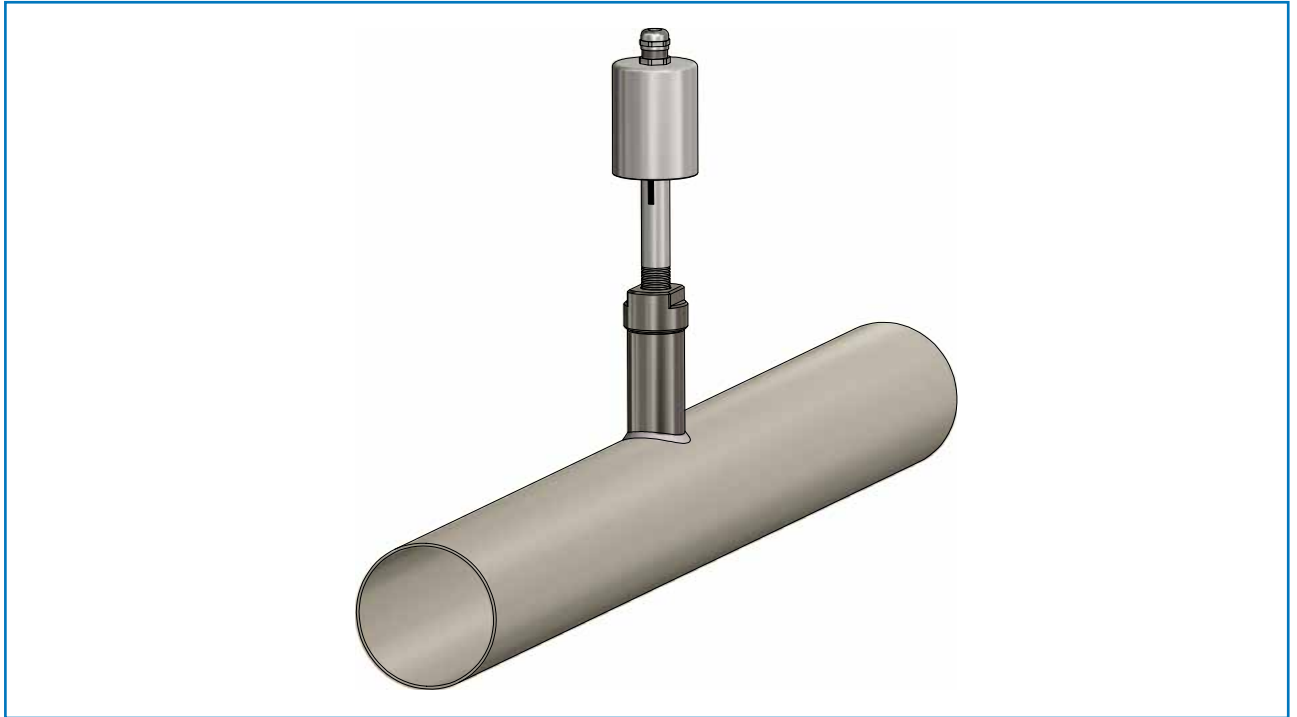

Fig. 12: Sensor alignment
- and align it longitudinally to the pipe axis as shown on the polarisation sticker (Fig. 12). Then seal the measurement point with the union nut.